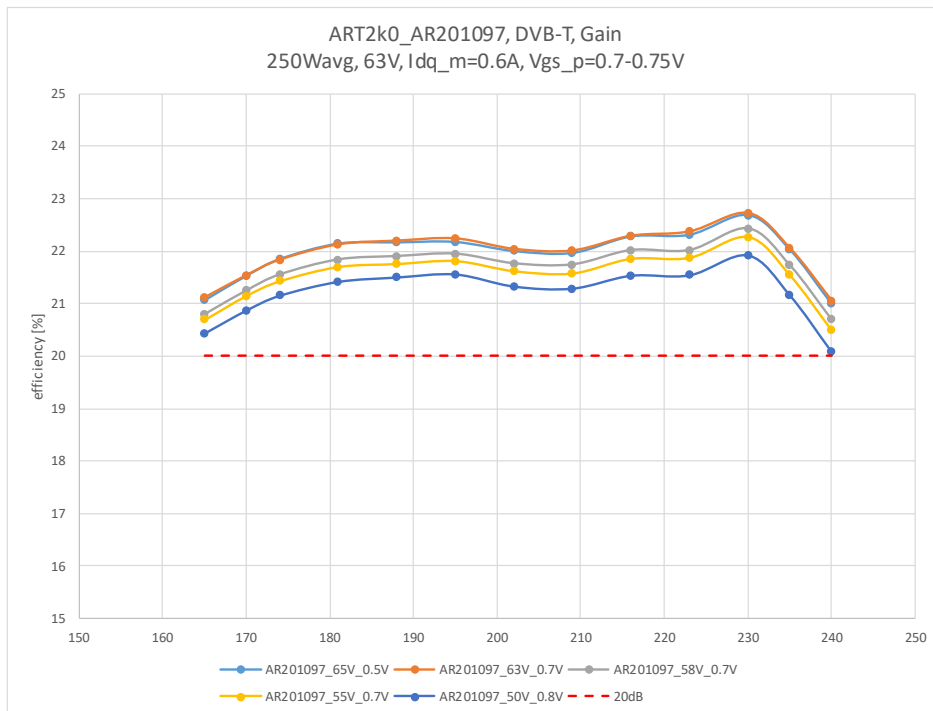

Figure 3 DVB-T, Gain (uncorrected) Vdd=50 - 65V
- Figure 3 DVB-T, Gain (uncorrected) Vdd=50 - 65V 6